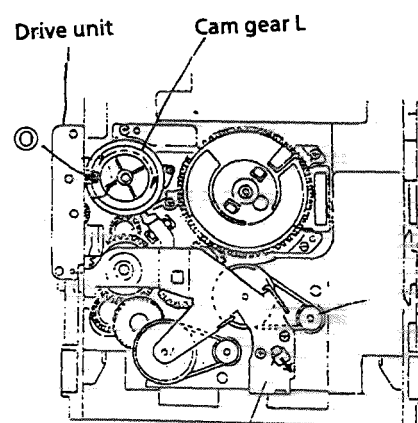

Fig. 2-15
2. Rotate the Cam gear L so that the drive unit's pawl ③ is positioned as shown in Fig. 2-15.